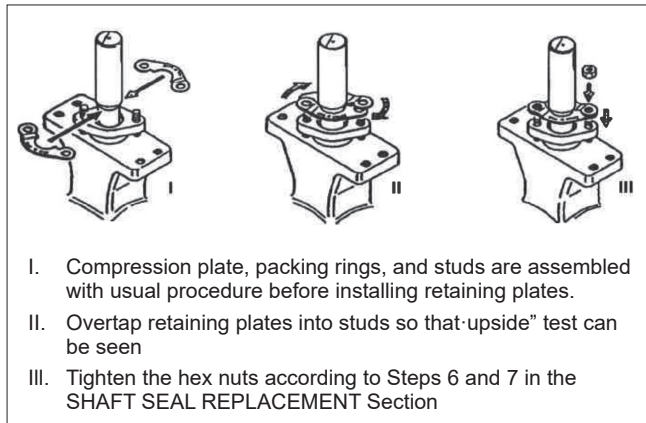

Figure 10. Blow Out Preventer Assembly
2. Remove the shaft key (13), hex nuts (25), retaining plates (42) and the compression plate (9). The studs (24) do not have to be removed.
3. Remove the old packing (20) segments. Do not score the shaft or body!
5. Reinstall the compression plate. Reinstall the retaining plates and the hex nuts as shown in the Blow Out Preventer Assembly. (See Figure 10).